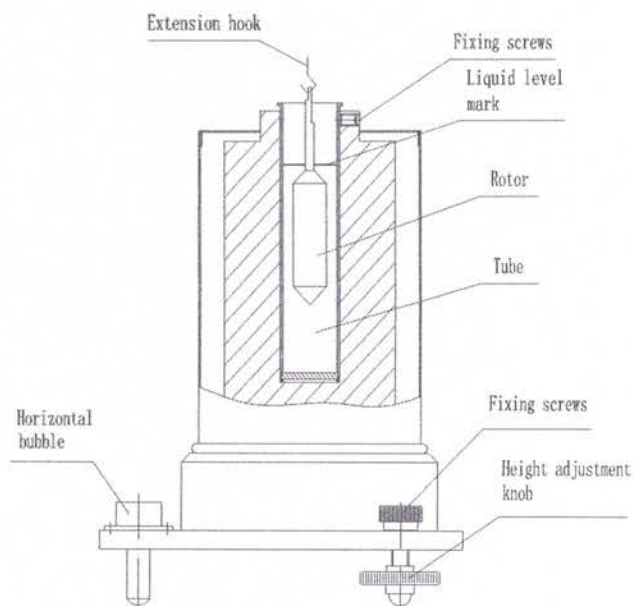

Fig. 16
6) After the rotor is placed in the sample, check whether the liquid level mark (see Fig. 16 for details) is appropriate. The rotor can be adjusted to the appropriate height by lifting the knob.